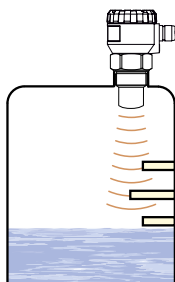

Fig. 5: False echo from obstacles in the tank
- If the emitted radio waves of the level meter is affected by near objects (roughness on walls of the tank, various partitions, mixers etc.), it is necessary to map false reflections by activating the mode "TEACHING". In case of installed mixers, it is necessary to put the mixers to position under the level meter (direct the mixer paddle to the radio signal beam) (Fig. 5 and 6).